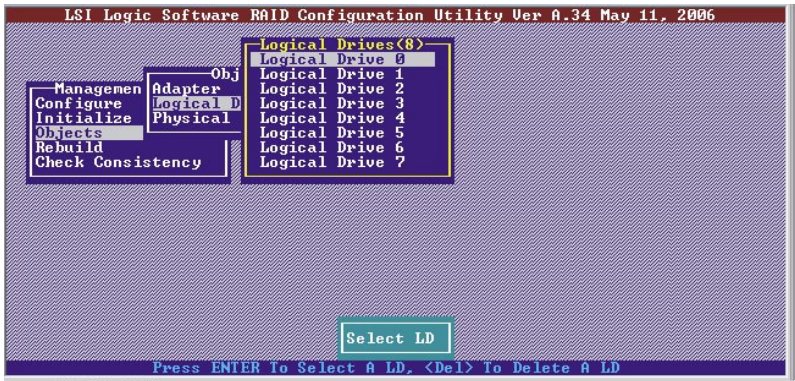

Figure 3-3: Logical Drive Submenu
1. From the Management Menu, select Objects→ Logical Drive, as shown in Figure 3-3.